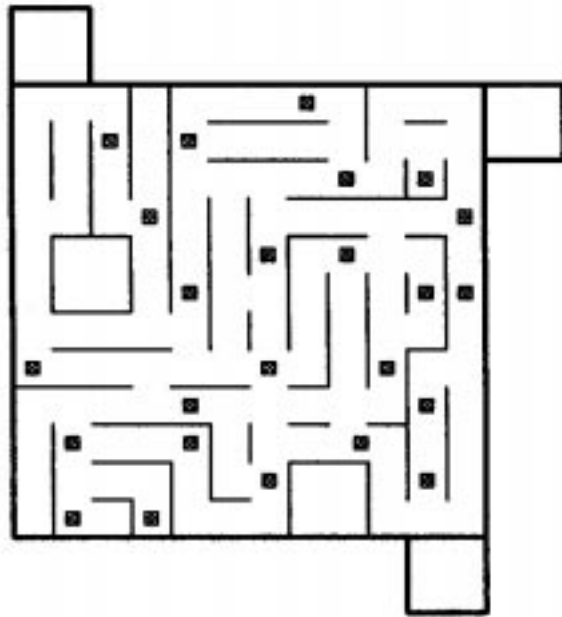

Figure 3: Sample AlleyWay Configuration with Trash-Bins
- 2.5 Small square posts, 1.2 cm x 1.2 cm x 5 cm high, at the 4 corners of each unit square are called lattice points. The alleyways shall be constituted such that there is at least 1 wall touching each lattice point. The distribution of trash-bins in the alleyways shall be such that there shall be at least 1 clear path to any 1 of the disposal centres. A sample layout is given in Fig 3.